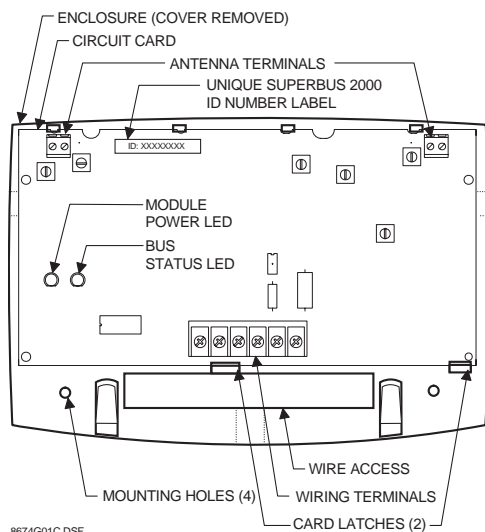

Figure 1. RF Transceiver Module Components (plastic case version shown)
Figure 1 shows transceiver components and the following table describes them.
1. Loosen the **inside** terminals of the left and right antenna terminal blocks (see Figure 1).